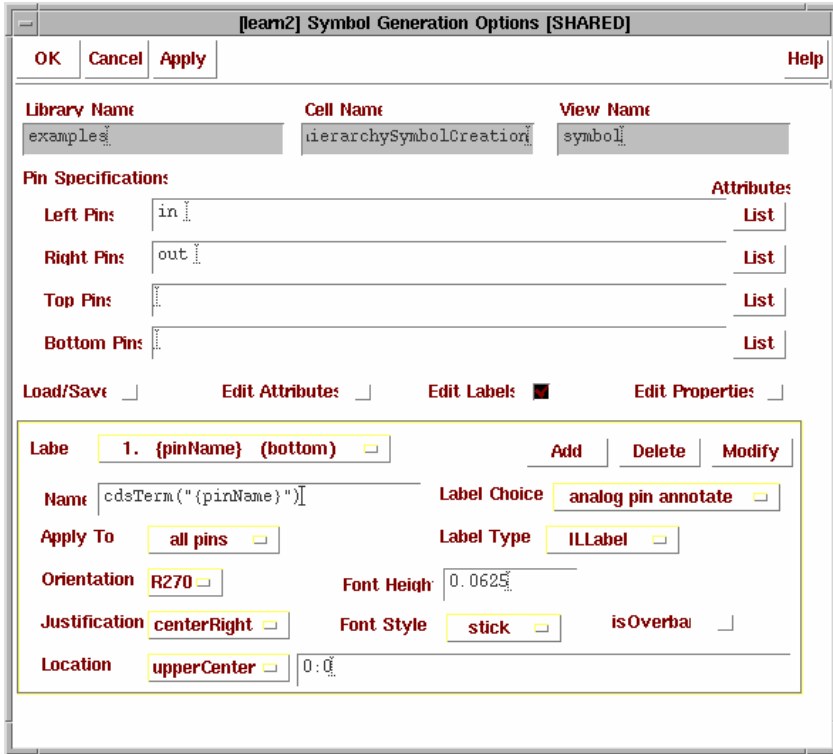

Figure 8-5. Symbol Generation Options to create a symbol with cdsTerms on each pin
5. Select *all pins* from the *Apply To* drop-down menu and click **Add**. This generates a new label rule that creates a *cdsTerm* for each pin. You may alter the location if you choose. The form with all appropriate option settings is shown in Figure 8-5.